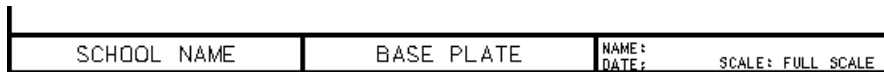

Figure P4-3 Filled-in title block
This procedure has you place text in the title block, as shown in Figure P4-3.
STEP 8: In the right title block area, place the text shown in Figure P4-3. Key-in **Name:** and your name, press ENTER, key-in **Date:** and today's date, and then key-in three spaces and the scale information.
Compare your completed title block to the one shown in Figure P4-3.